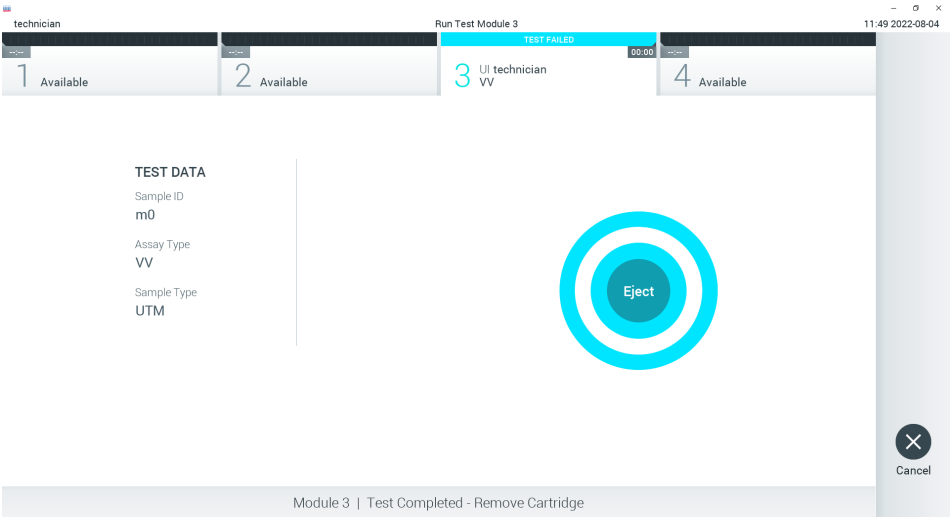

Figure 15. Eject screen display.
- 21. After the test run is completed, the Eject screen will appear (Figure 15) and the Module status bar will display the test result as one of the following options: